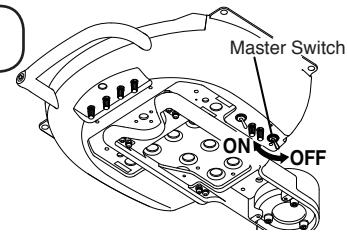
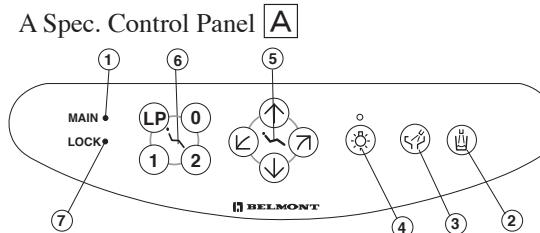

Fig.3-1 Master Switch
Fig.3-2 A Spec. Main Control Panel
(1) Master Switch (Fig.3-1, Fig.3-2 & Fig.3-3)
Turn on the master switch located under the right hand side of the doctor table, the power indicator on the main control panel will then illuminate green. (Fig.3-2&3-3 ①)